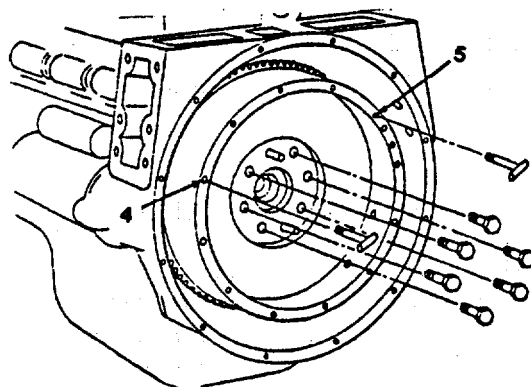

FIGURE 3-91. Flywheel Installation.
- d. Install two T-handles in the flywheel (4 and 5, FIGURE 3-91).
- b. Install two t-handles in the flywheel (4 and 5, FIGURE 3-91).